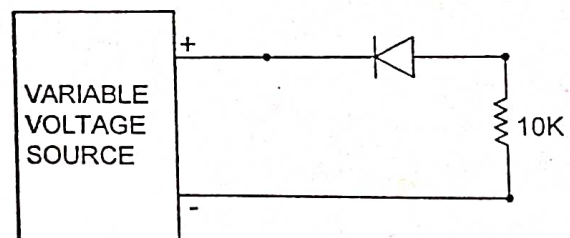

Fig.3 Reverse characteristics
- Set-up the circuit as in Fig. 3.